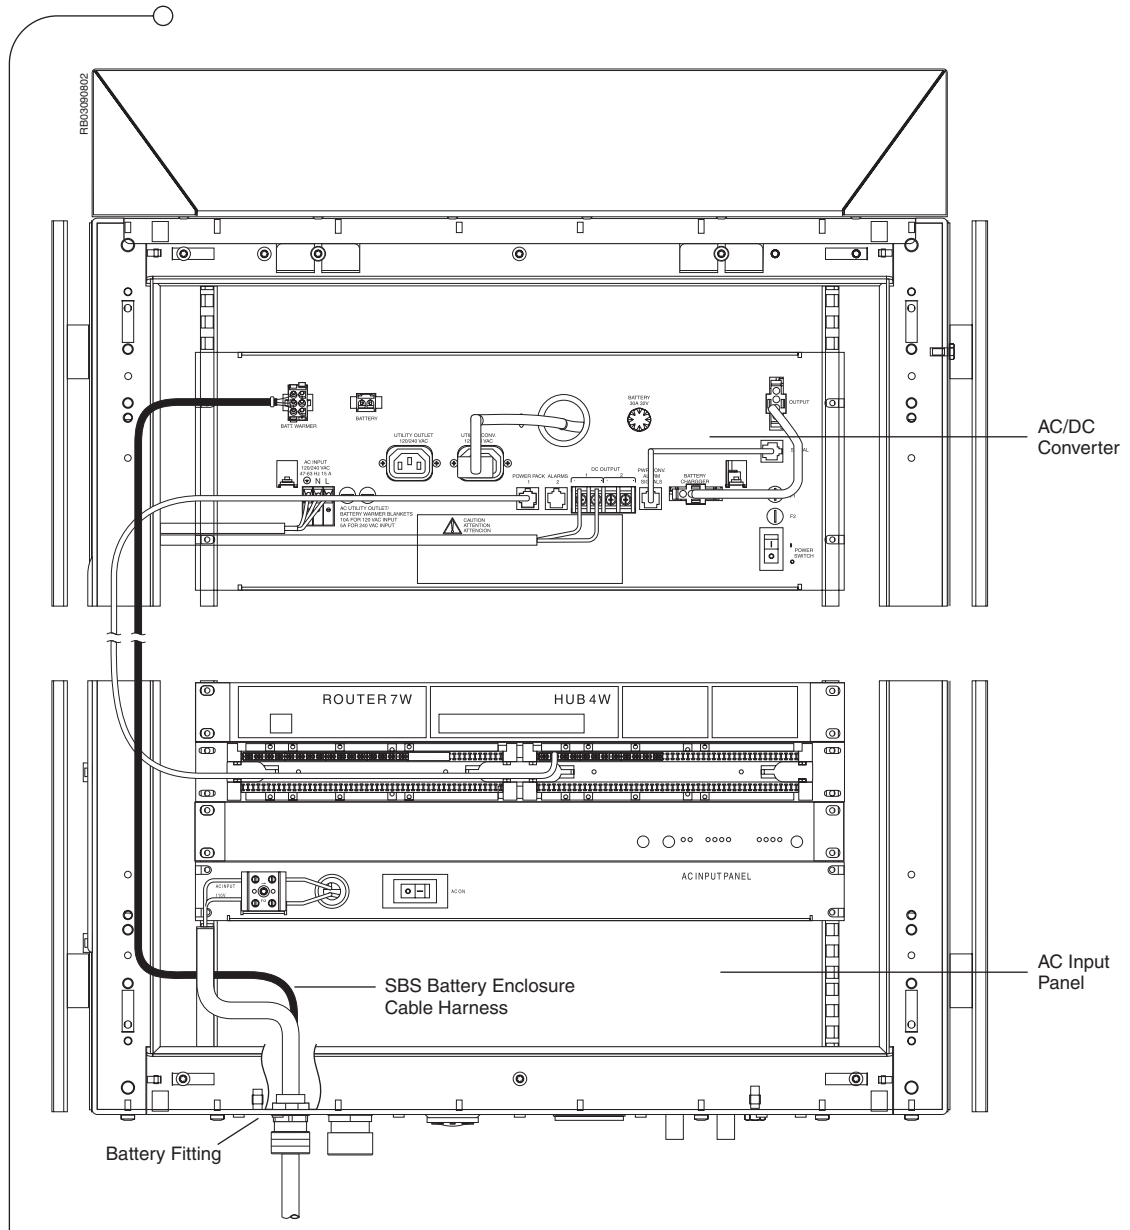

Figure 3.17 SBS Battery Enclosure Cable Harness Connection
2. Pass the SBS Battery Enclosure Cable Harness through the fitting and connect to the AC/DC Converter, as shown in Figure 3.17 on page 53.